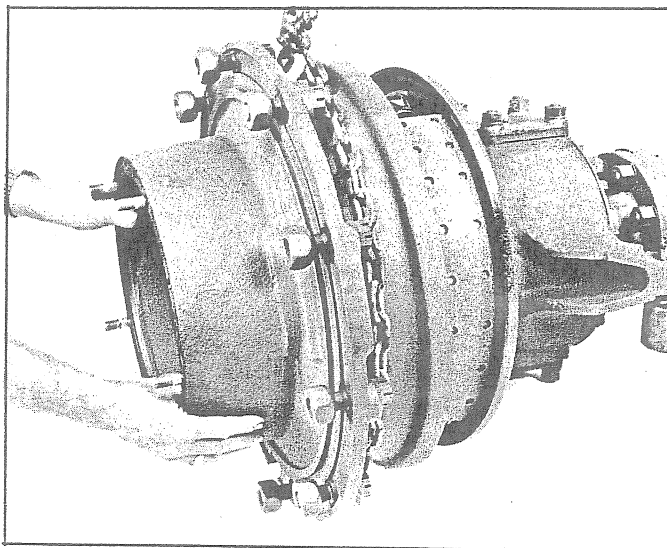

Fig. 9 - Removing Brake Drum and Hub
9. Pull straight out on brake drum and hub assembly to remove it from axle. See Fig. 9.